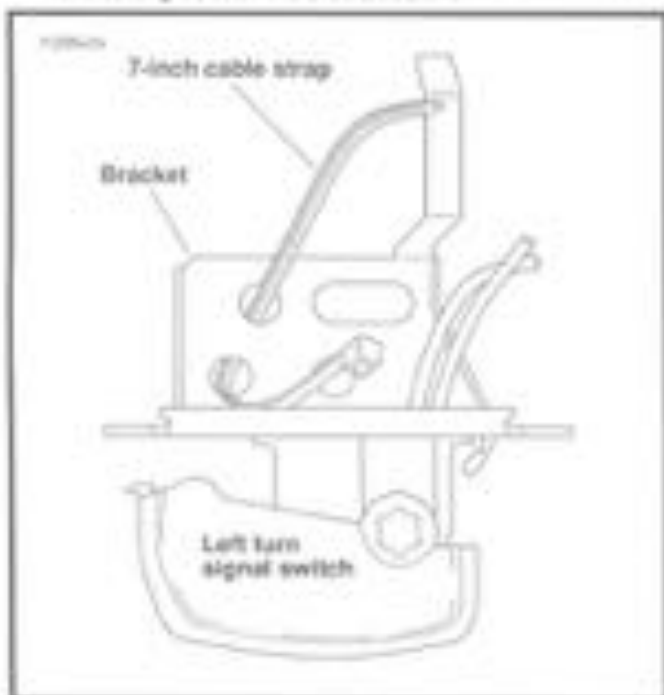

Figure 7-83. Insert Cable Strap in Switch Bracket
1. See Figure 7-83. Insert tapered end of new 7 inch cable strap into round hole in turn signal switch bracket and then feed back through using the adjacent hole. Reserve the oblong hole for the bracket screw.